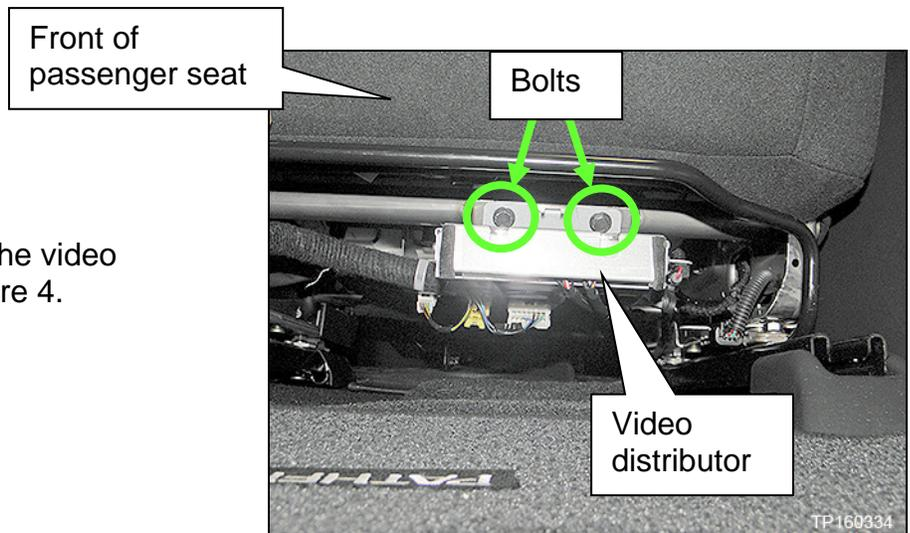

Figure 4
3. If so equipped, remove the video distributor shown in Figure 4.